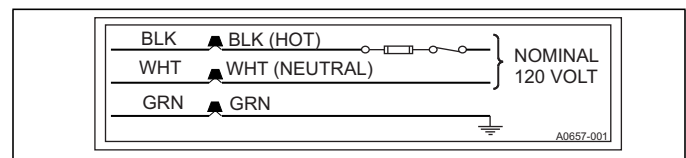

Figure 17: Line wiring connections
3. The furnace's control system requires correct polarity of the power supply and a proper ground connection. Refer to Figure 17.